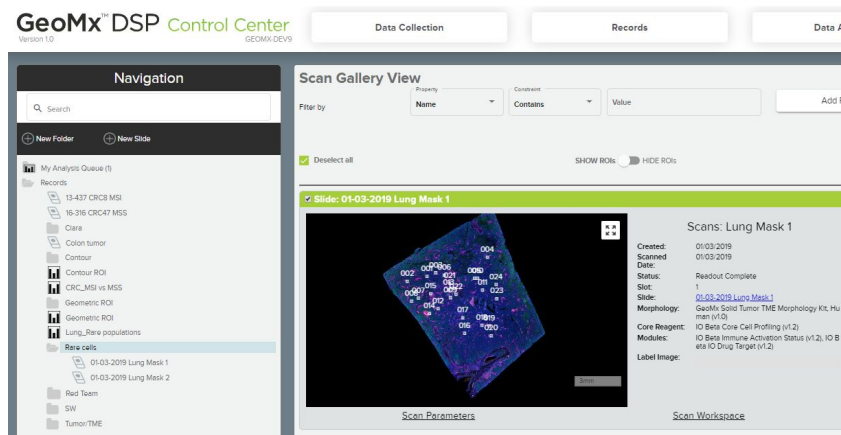

Figure 4: Scan Gallery View under Records; adding scans to Data Analysis queue
2. Select the folder containing your scans from the Navigation window on the left (see Figure 4).